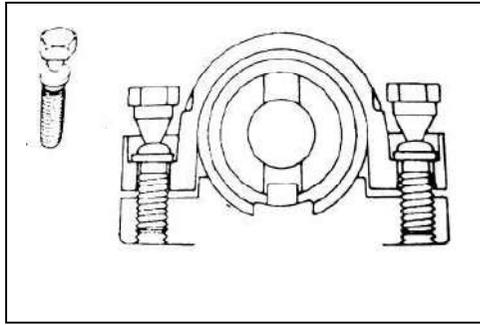

Fig 17-17
(1) STEERING LOCK CYLINDER ASSEMBLY .STEERING LOCK BRACKET.SPECIAL BOLT INSTALLATION(See fig 17-17)